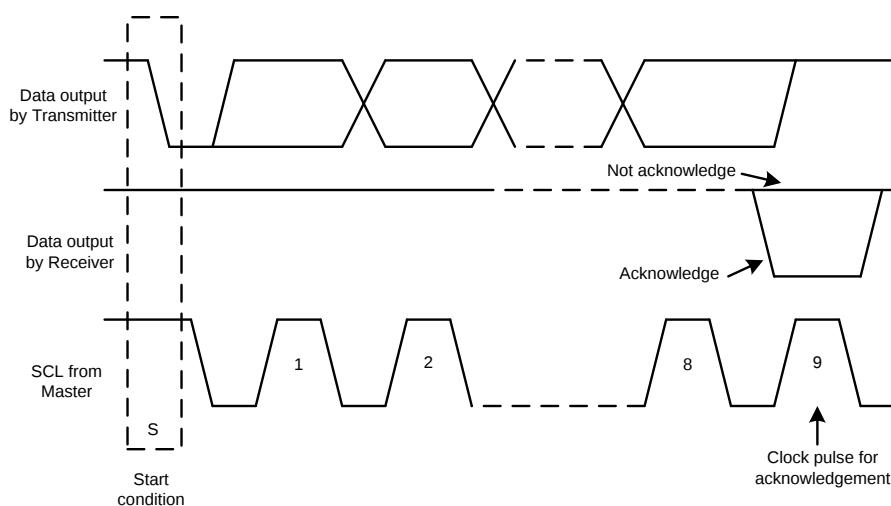
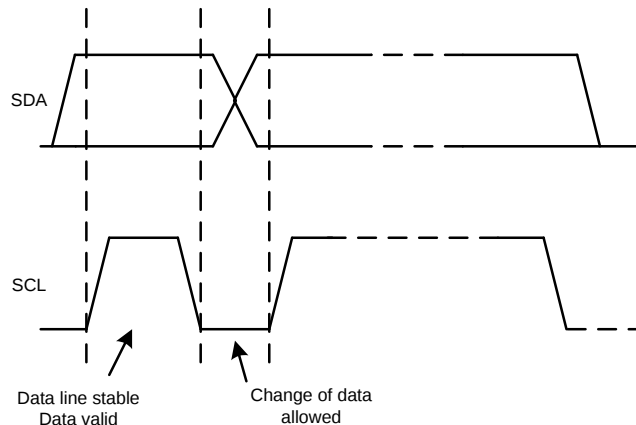

图 6. Acknowledge and Not Acknowledge on the I²C Bus
图 8. Bit Transfer on the I²C Bus
Other than specific timing signals, the I²C interface works with serial bytes. At the end of each byte, a ninth clock cycle generates and detects an acknowledge signal. Acknowledge is when the SDA line is pulled low during the high period of the ninth clock cycle. A not-acknowledge is when the SDA line is left high during the high period of the ninth clock cycle as shown in 图 6.
2. The master then generates the SCL pulses, and transmits the 7-bit address and the read/write direction bit (R/W) on the SDA line. During all transmissions, the master makes sure that data are valid. A valid data condition requires the SDA line to be stable during the entire high period of the clock pulse, as shown in 图 8. All devices recognize the address sent by the master and compare it to their internal fixed addresses. Only the slave device with a matching address generates an acknowledge by pulling the SDA line low during the entire high period of the 9th SCL cycle, as shown in 图 6 by pulling the SDA line low during the entire high period of the 9th SCL cycle. Upon detecting this acknowledge, the master knows the communication link with a slave has been established.